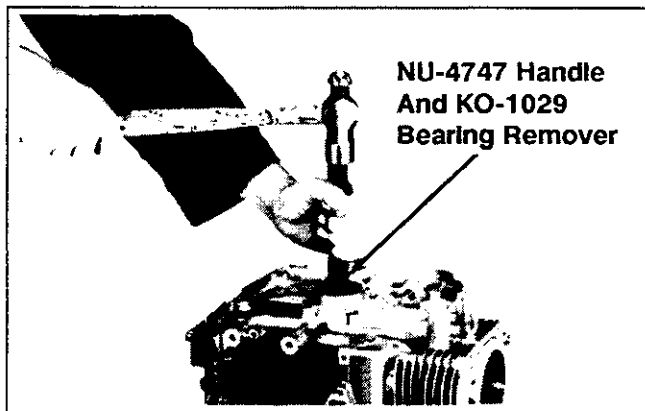

Figure 9-45. Removing Crankshaft Bearing.
- Remove the bearing from the crankcase using handle #NU-4747 and bearing remover #KO-1029. See Figure 9-45.